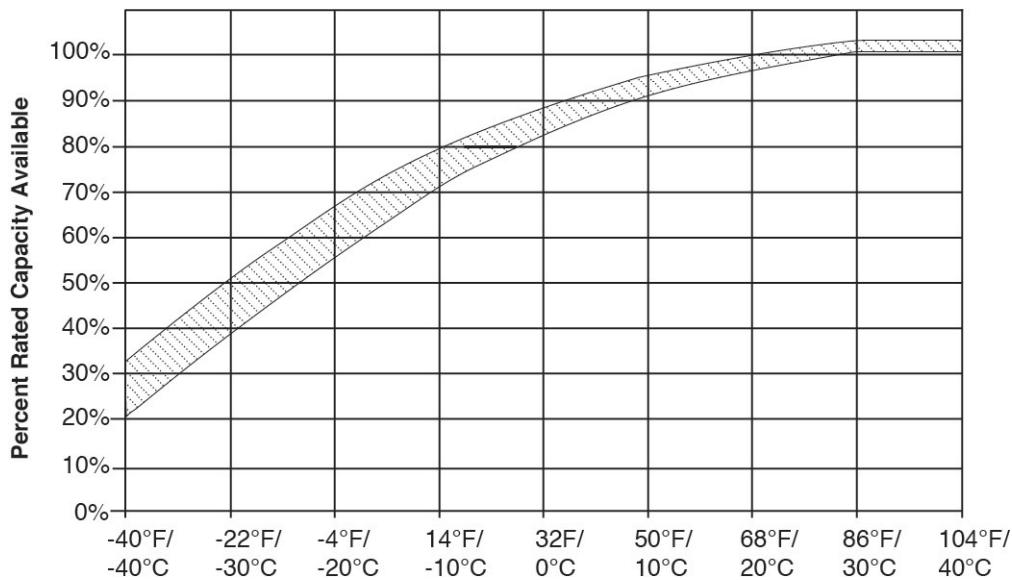

Fig. 1-4, Estimated Available Capacity vs. Battery Temperature
- ⊗ As batteries get colder, the available capacity is reduced. This is related to the kinetics of the electrochemical reactions and the resistivity of the electrolyte (See Fig. 1-4).